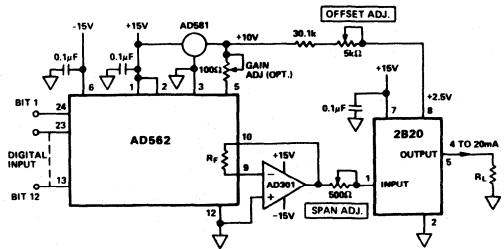

Figure 7. 12-Bit - 4 to 20mA Current Loop Interface
**Interfacing Current Output D/A Converters:** To interface current output D/A converters, such as the AD562, a circuit configuration illustrated in Figure 7 should be used. Since the AD562 is designed to operate with an external +10V reference, the same external reference may be utilized by the 2B20 for ratiometric operation. The output of the AD562 is used to drive the summing junction of an operational amplifier to produce an output voltage. Using the internal feedback resistor of the AD562 provides a 0 to +10V output voltage range suitable to drive the 2B20.